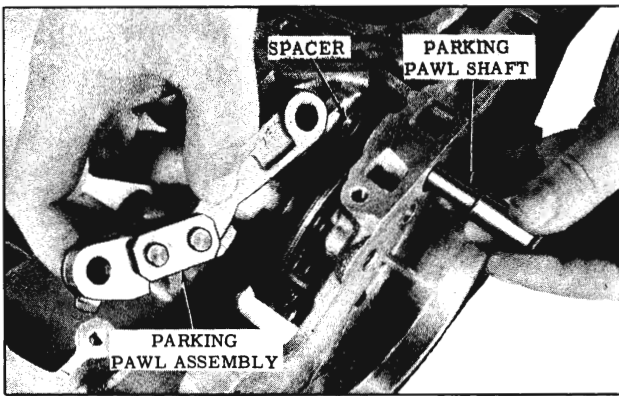

Fig. 3-301 Installing Parking Pawl
22. Install the parking pawl spacer into counter-bore in case. (Fig. 3-301)